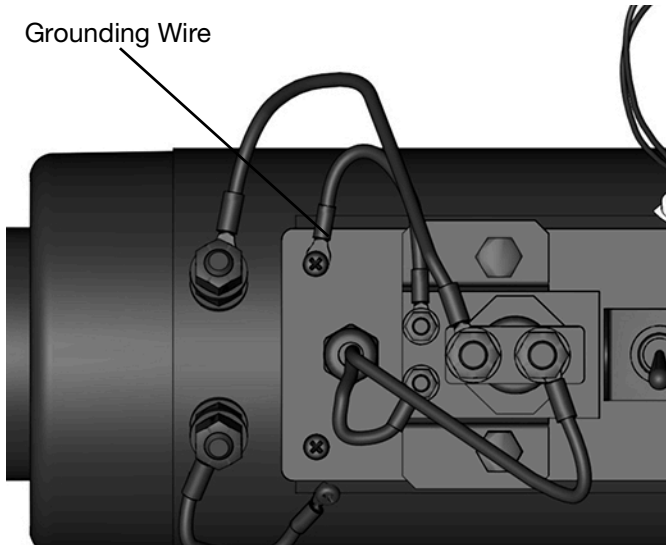

FIG. 42
13. Insert the four terminal box cover screws and tighten, making sure that the grounding wire is connected properly (see FIG. 42).